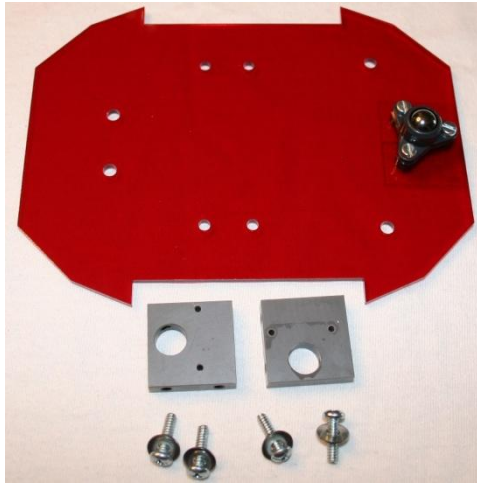

FIG 21. Prepare to Assemble Motor Mounts to Base Plate.
Refer to figure 21 below for how to prepare to assemble motor mounts to base plate using (4) 6-32x1/2" machine screws and flat washers.